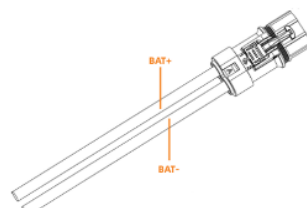

Figure 6-17 Two-core connector with cable
Step 3: Insert the cables with crimped terminals into the plug body as shown in Figure 6-17.